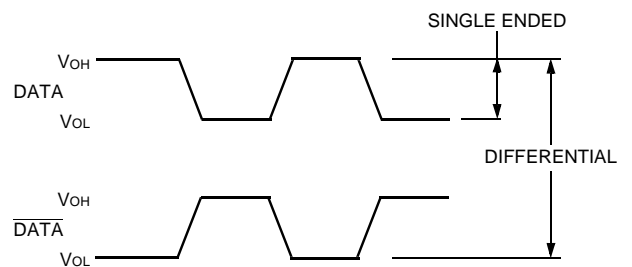

Figure 2. Data Input/Output Logic Level Definitions
* 50 Ω load, measured single ended. Differential operation is necessary for optimum performance. (See Figure 2 for visual representation.)
† 50 Ω load, measured single ended. Differential operation is necessary for optimum performance. (See Figure 2 for visual representation.)